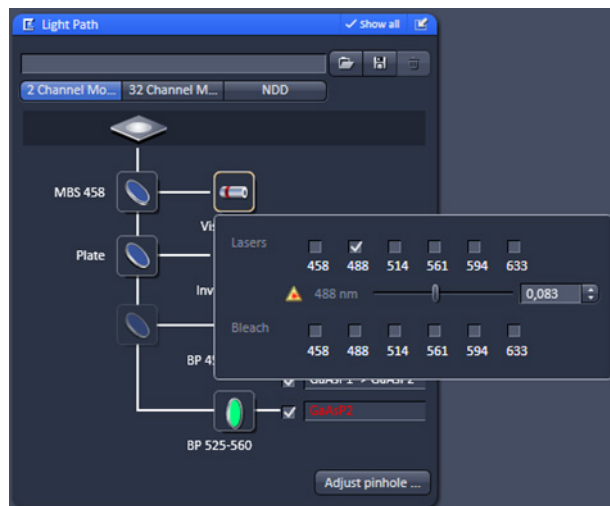

Fig. 265 Light Path tool with laser submenu
- Press the **Laser** button to display the laser control expansion submenu (Fig. 265). Alternatively you have access to the **Laser Lines** in the **Acquisition** tab. They provide settings for: